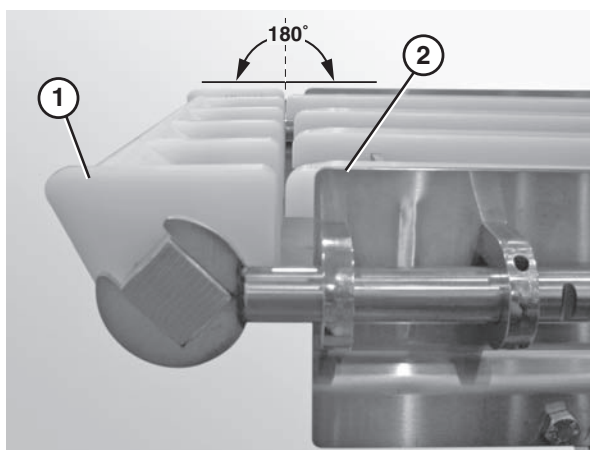

Figure 24
5. Ensure that the nose bar pucks (Figure 24, item 1) are in line with the conveyor frame (Figure 24, item 2).